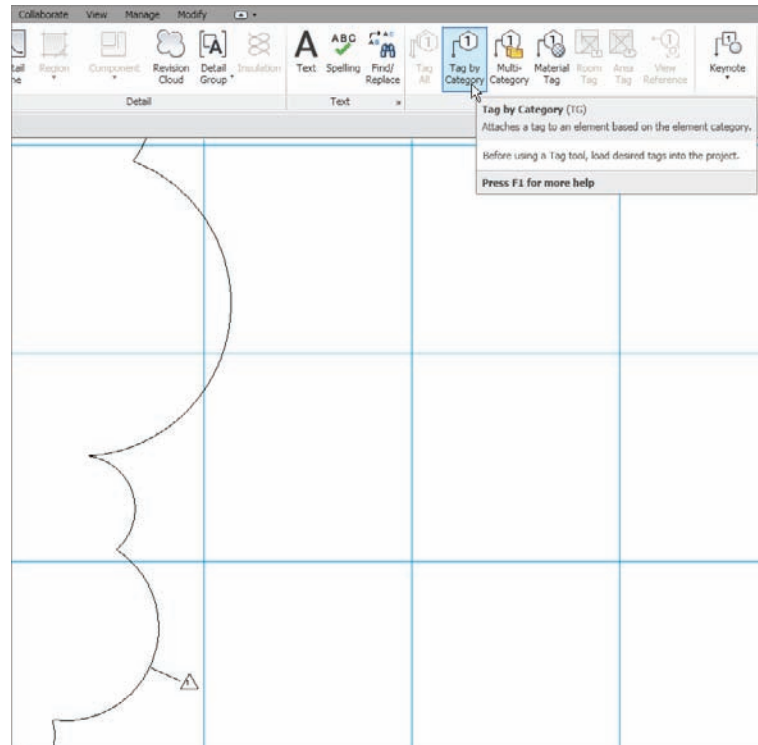

FIGURE 14.19 The revision tag has been added to the cloud. Also, notice that the title block has Revision 1 added to it.
5. On the Annotate tab, click Tag By Category, as shown in Figure 14.19.
9. Pick the revision cloud. It's now tagged (see Figure 14.19).